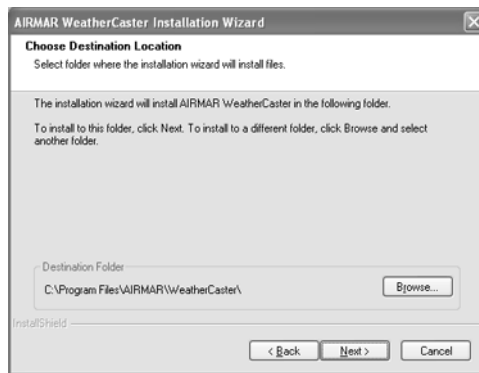

Figure 21. Choose Destination Location window
6. The Choose Destination Location window will appear (see Figure 21). Follow the screen prompts. Click Next to continue.